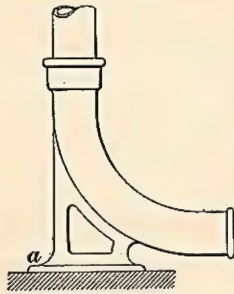

FIG. 34
52. Cast-iron soil and vent pipes should be strongly secured in place. Vertical stacks should rest on a solid support at the bottom. If an elbow occurs at the base of the stack, it should be provided with a flat foot, or **heel rest**, as shown at *a* in Fig. 34.